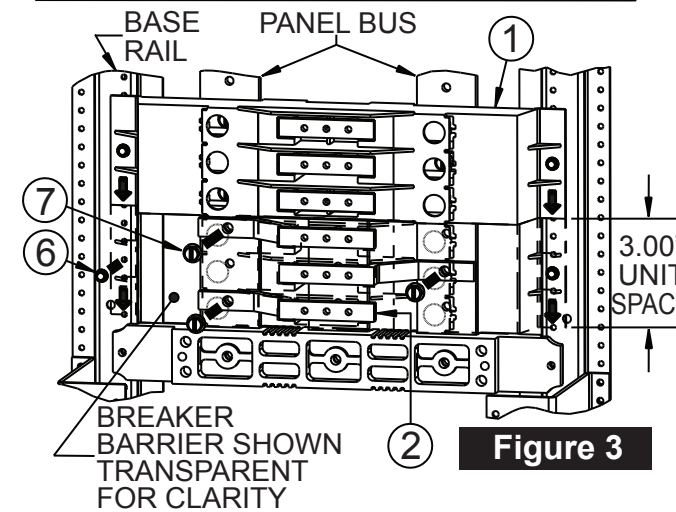
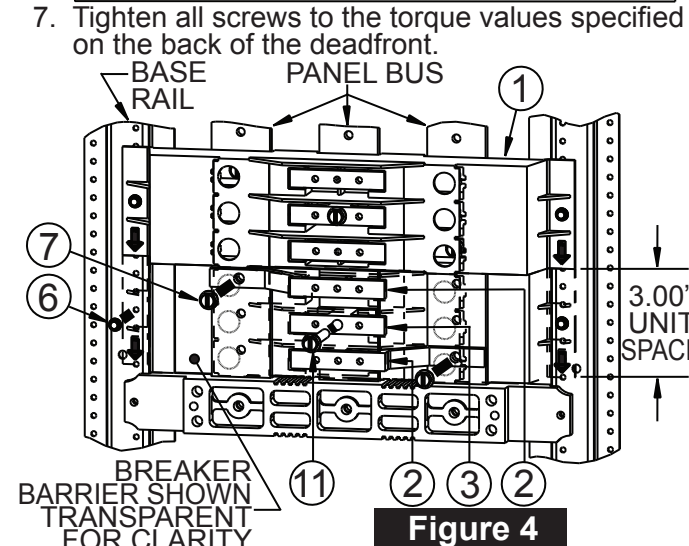

**Figure 2**
**Figure 3**
6. Refer to Figure 3
Position the breaker mounting barrier (Item 1) so that it fills the 3" unit space for the kit and fasten it to the base rails using two #8-32 screws (Item 6). Install the three outer connectors (Item 2) within the mounting barrier, alternating between the left and right panel bus. The left-right-left connector pattern (shown in Figure 3) may be reversed if necessary to continue a connector pattern already in place in the panel. Use the locating pins on the mounting barrier (Figure 2) to aid in aligning the two outer connectors with the center hole on the connector. Fasten the connectors to the panel bus with three 1/4"-20 x 5/8" screws (Item 7).
Position the breaker mounting barrier (Item 1) so that it fills the 3" unit space for the kit and fasten it to the base rails using two #8-32 screws (Item 6). Install the two outer connectors (Item 2) and the center connector (Item 3) within the mounting barrier, as shown. Use the locating pins on the mounting barrier (Figure 2) to aid in aligning the two outer connectors with the center hole on the connector. Fasten the outer connectors to the panel bus with two 1/4"-20 x 5/8" screws (Item 7) and center connector with one 1/4"-20 x 1-7/8" screw (Item 11).
Position the breaker mounting barrier (Item 1) so that it fills the 3" unit space for the kit and fasten it to the base rails using two #8-32 screws (Item 6). Install the phase connectors (Item 2) within the mounting barrier, alternating between the left and right panel bus. The left-right-left connector pattern shown in Figure 5 may be reversed if necessary to continue a connector pattern already in place in the panel. Use the locating pins on the mounting barrier (Figure 2) to aid in aligning the two outer connectors with the center hole on the connector. Fasten the connectors to panel bus with three 1/4"-20 x 1" screws (Item 8).
Position the breaker mounting barrier (Item 1) so that it fills the 3" unit space for the kit and fasten it to the base rails using two #8-32 screws (Item 6). Install the two outer connectors (Item 2) and the center connector (Item 3) within the mounting barrier, as shown. Use the locating pins on the mounting barrier (Figure 2) to aid in aligning the two outer connectors using the center hole on the connector. Fasten the outer connectors to the panel bus with two 1/4"-20 x 1" screws (Item 8) and center connector with one 1/4"-20 x 2-1/4" screw (Item 10).